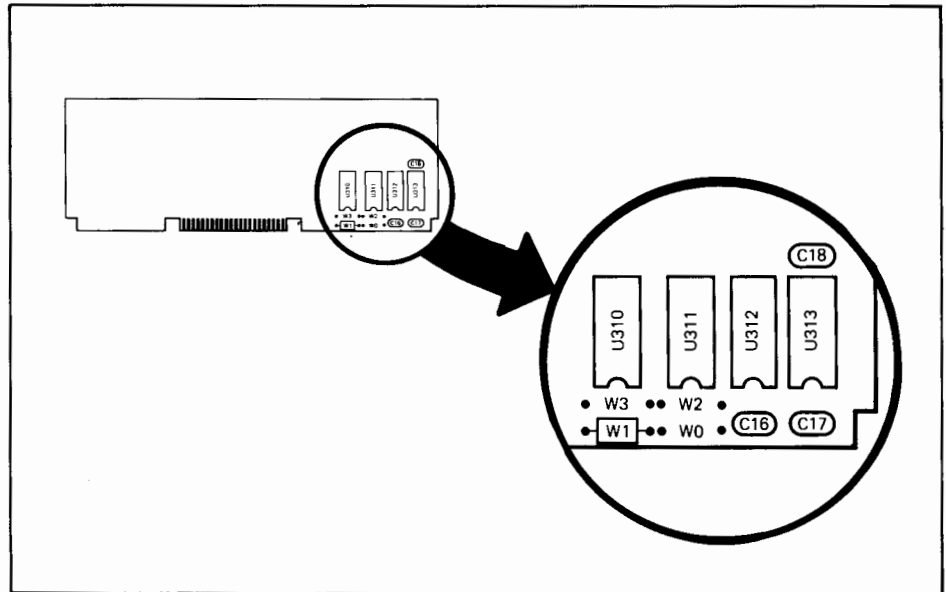

Figure 3-12. Jumpers Locations (Address 13 Selected)
- PROCEDURE** Strap the jumper locations to select, in binary code, the PCA address (figure 3-12). If a jumper location is occupied by a jumper, the associated binary bit is one. If unoccupied, the associated binary bit is a 0. For example, address 13 is represented as follows: